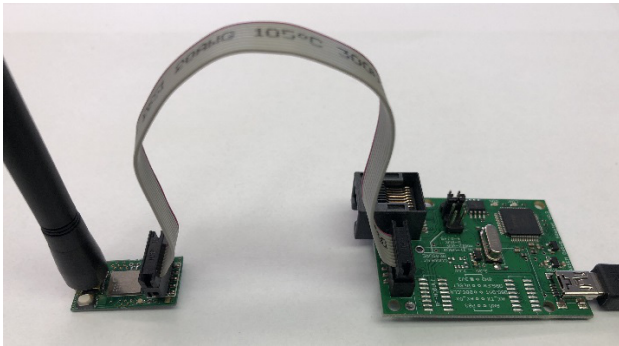

Figure 2.
- The other side of the ribbon cable connects to the mini-module, and the ribbon cable should be connected so that the ribbon cable points away from the mini-module. See Figure 2.